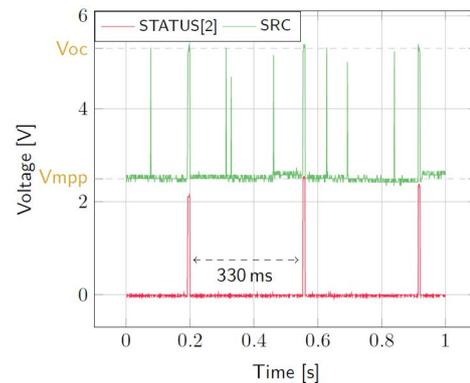

Figure 4: SRC and STATUS[2] while energy is extracted from SRC (BATT under V_{OVCH})
- SRC: Regulated at V_{MPP} , which is a voltage equal to the open-circuit voltage (V_{OC}) times the MPP ratio defined in Table 4. V_{SRC} equals V_{OC} during MPP evaluation (see Figure 4). Note that V_{src} must be higher than 380 mV to coldstart.
- STATUS[2]: Asserted each time the AEM30940 performs a MPP evaluation (See Figure 4).